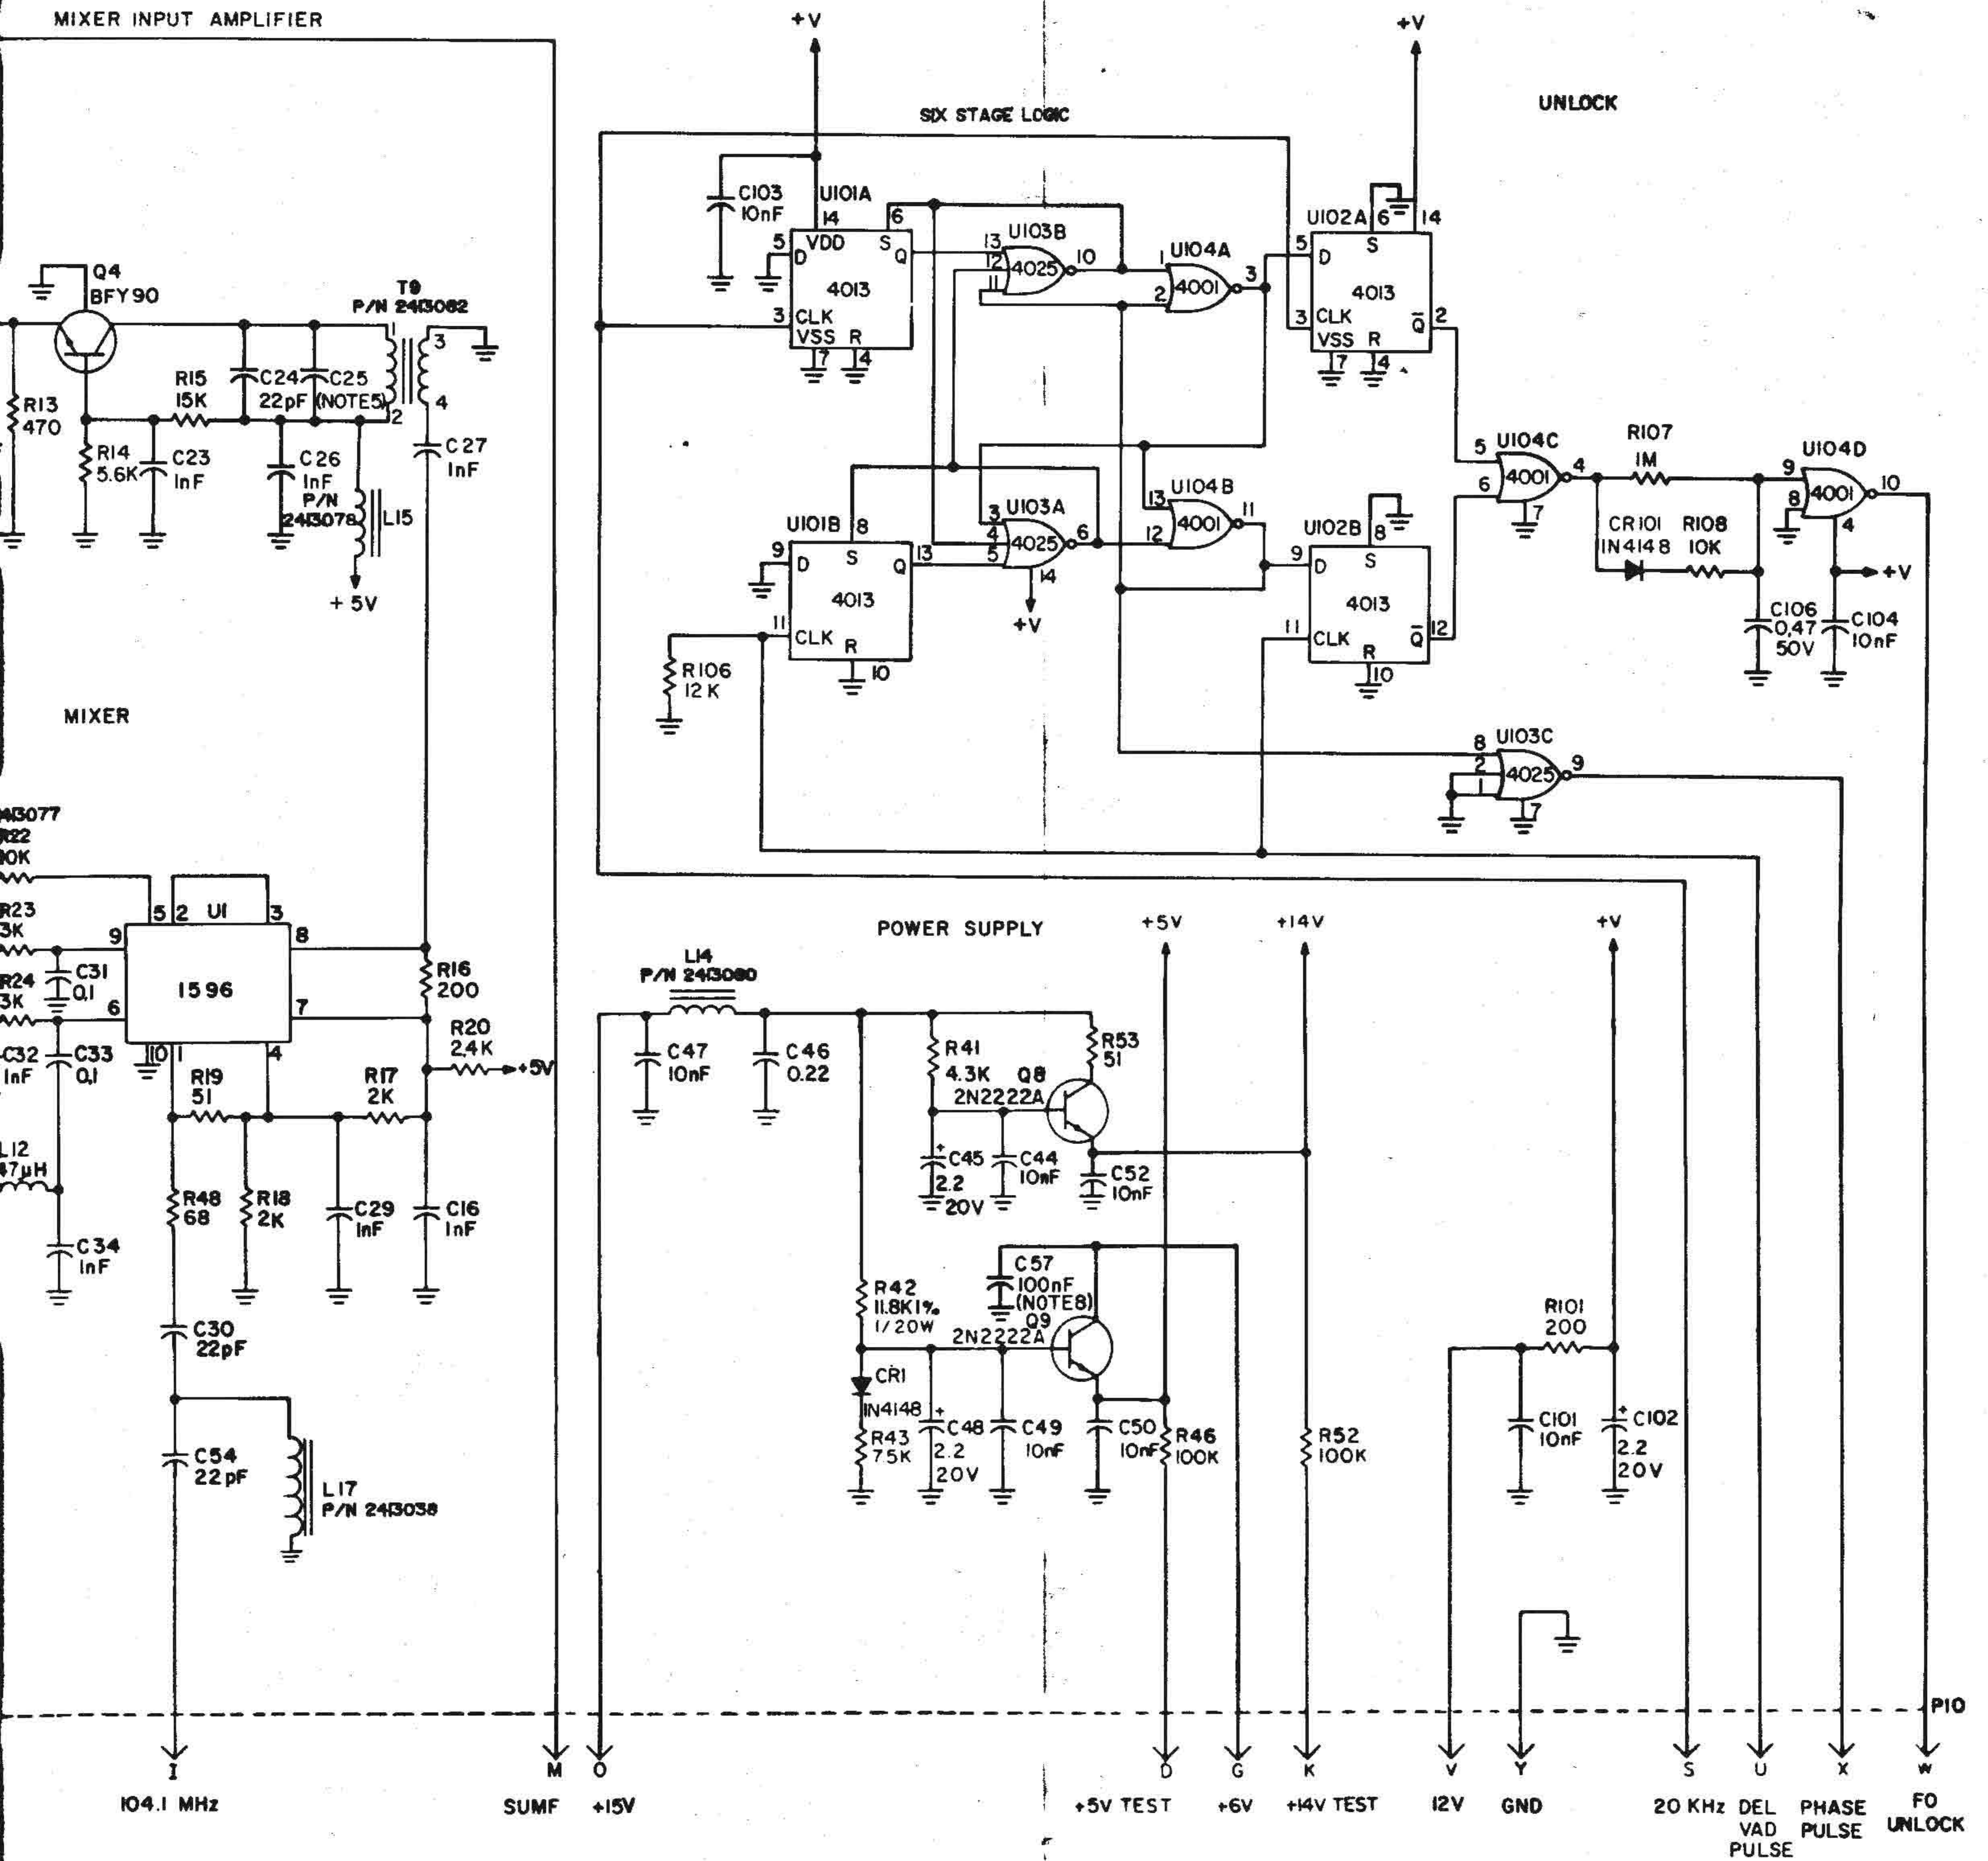

Fig. 2-60. Module SUM 1A3A5, schematic circuit diagram
b. SUMF Generation, Circuit Analysis (fig. 2-60).
(1) VCXO circuit. The SUMF output frequency is derived from the signal supplied by the VCXO built around Q1. Its frequency may be varied, in the 20.826 to 20.82998 MHz range, by the control voltage applied to the variable capacitance diode CR2. CR2 is part of the resonant circuit formed by the crystal X1, L1, and C2. The